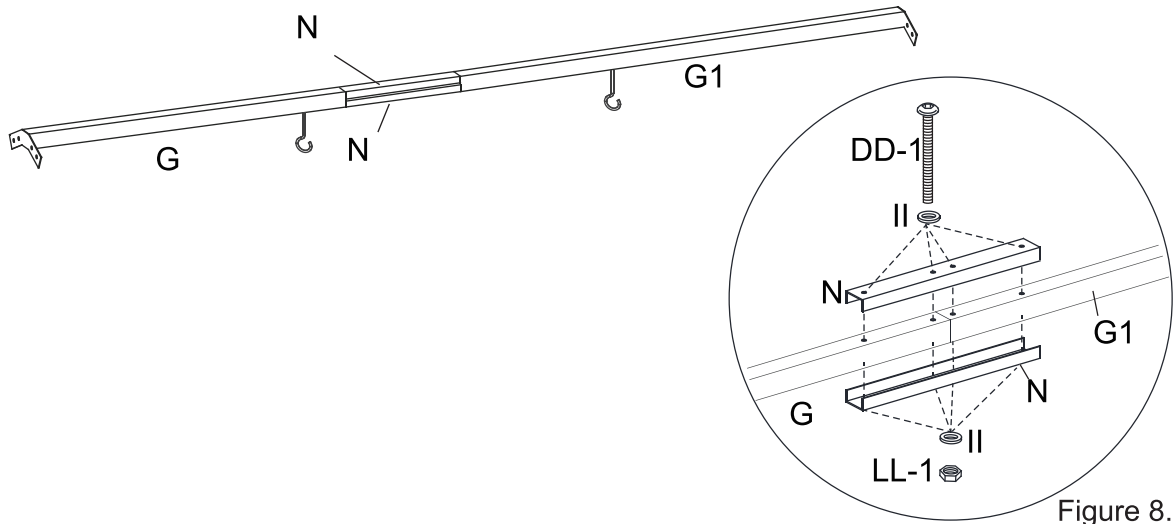

Figure 8.1
8.1 Connect the Connector (N) and the Middle Support bar (G/G1) with the Bolt (DD-1), Washers (II) and Nut (LL-1). See Figure 8.1.